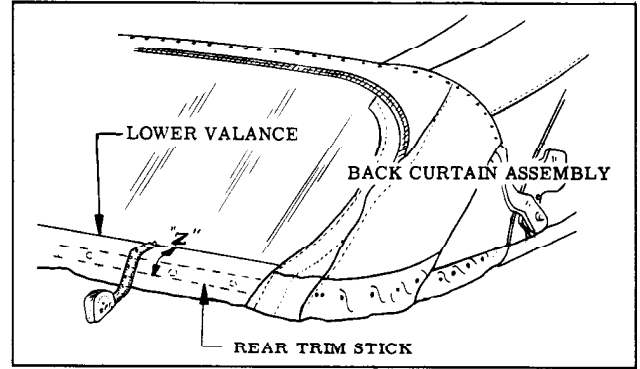

Fig. 17-125 Check Trim Stick to Lower Valance Dimension
- 13. Remove rear trim stick with attached back curtain assembly and top compartment bag from body and place on clean surface. Measure and record dimension "Z" between lower surface of rear trim stick and upper edge of back curtain lower valance. (Fig. 17-125) Back curtain assembly may now be detached from rear trim stick.